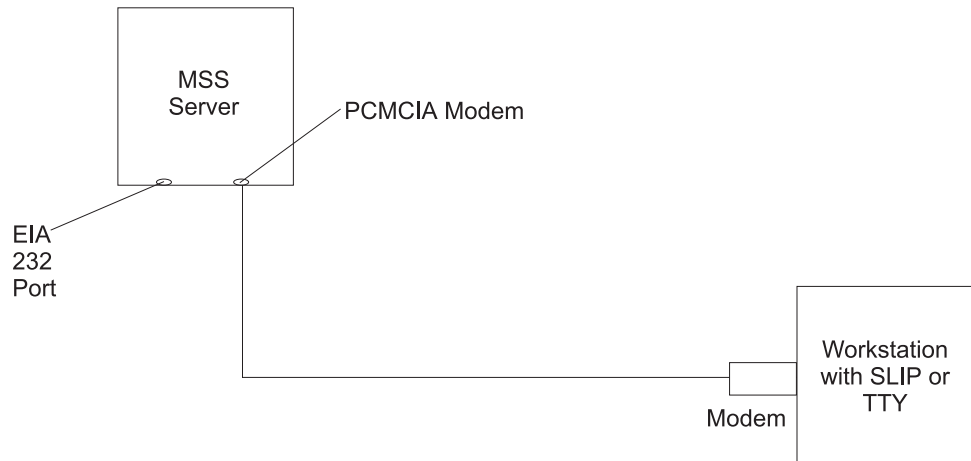

Figure 3-3. Remote Serial Connection to the PCMCIA Modem (Voice/Data/Fax PCMCIA Modem or Data/Fax PCMCIA Modem)
- A remote connection through the PCMCIA modem, the Voice/Data/Fax PCMCIA Modem, or the Data/Fax PCMCIA Modem (see Figure 3-3 on page 3-3)